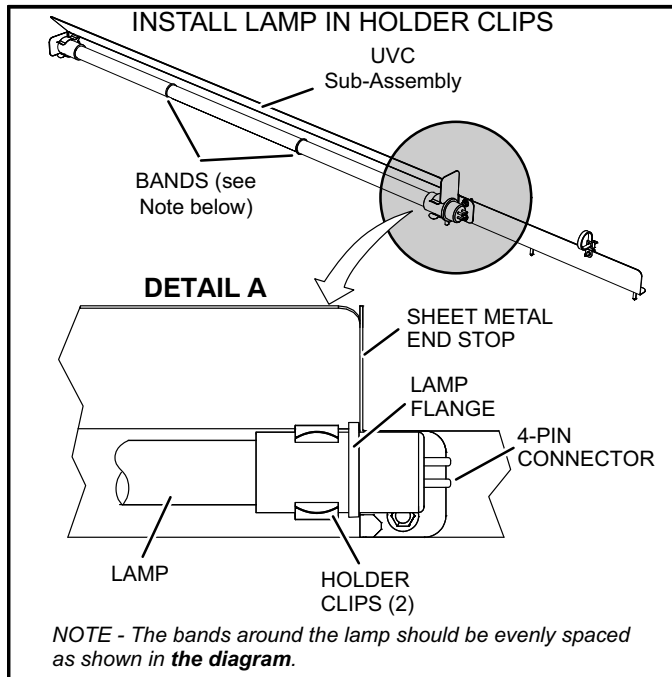

FIGURE 12
- 1- Wear cotton gloves or use a cotton cloth when handling the new lamp. Place the lamp in the holder clips of the UVC sub-assembly (see figure 12). Verify that the lamp flange at the connector end is positioned between the lamp holder clip and the sheet-metal end stop (see detail A in figure 12).
- 5- Remove the (2) mounting screws of the UVC assembly. Carefully slide the complete UVC assembly out through the blower access door.
- 7- Wear cotton gloves or use a cotton cloth when handling the new lamp. Place the new lamp in the holder clips of the UVC assembly. Verify that the lamp flange at the connector end is sandwiched between the lamp holder clip and the sheet-metal end stop (see figure 12).